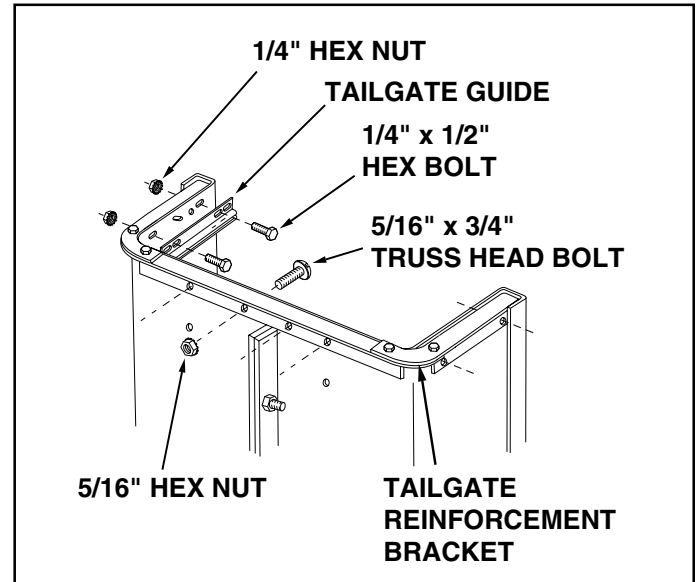

FIGURE 3
5. Position the tailgate reinforcement bracket on outside of cart as shown in figure 3. Assemble to the bottom of the cart body using four 5/16" x 3/4" truss head bolts and 5/16" hex nuts. **Do not tighten.** See figure 3.
6. Position the tailgate guides on the inside of the cart bodies with guide channels to the front as shown in figure 3. Assemble using four 1/4" x 1/2" hex bolts and 1/4" hex nuts. **Do not tighten.**